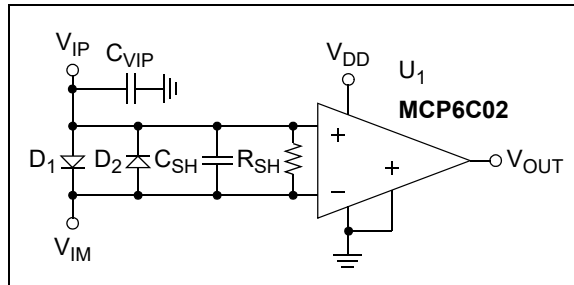
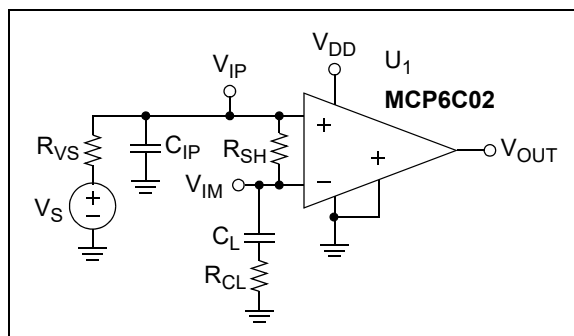

FIGURE 5-2: Protecting V_{DM} with Diodes.
FIGURE 5-4: Protection for Capacitive Loads.
The shunt resistor (R_{SH} in Figure 5-2) keeps V_{DM} in range, as long as the load current is not too high. If extra protection is needed in your design, ideas to consider include:
- Limit V_{DM} (see Figure 5-2)
Limiting the current from V_S helps protect the circuit in Figure 5-4. The resistance seen by V_S (R_{VS} (V_S 's ESR) and R_{CL} (C_L 's ESR)) helps reduce step response overshoot, which provides more protection. Using C_{SH} (see Figure 5-2) will create a voltage divider for fast edges; be careful to limit the resulting V_{DM} .
Protection would usually be added to this circuit. For instance, a catch diode across the motor (see Figure 5-4) would help at power down.